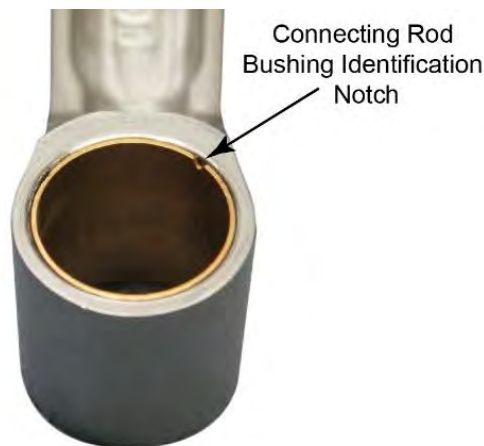

Figure 11
This Section contains required action to inspect connecting rod bushings and replace unacceptable connecting rod bushings. Acceptable connecting rod bushings, P/N 01K28983, installed or shipped as spares after September 9, 2021, can be identified by a single notch (Figure 11).
1. If the maintenance requires connecting rod removal and the connecting rod bushing does not have the identifying single notch (Figure 11), refer to the latest revision of Service Bulletin No. 240 for additional instructions.
4. Remove all connecting rod assemblies with a connecting rod bushing that does not have the identifying single notch (Figure 11) and all connecting rod bushings that do not have the identifying single notch (Figure 11) from your spares inventory.
- Spare Bushings that do not have the identifying single notch (Figure 11) should be considered unusable and discarded.
- Spare Connecting Rod Assemblies that do not have a bushing with the identifying single notch (Figure 11) should be considered unusable and discarded or have the bushing replaced with a notched bushing.
Inspect the connecting rod bushing for the identifying single notch (Figure 11).
- If the connecting rod bushing does not have the identifying single notch (Figure 11) complete the Connecting Rod Bushing Press-Out Verification Procedure in this Service Bulletin.
- If the connecting rod bushing has the identifying single notch (Figure 11) the bushing is acceptable and provided the bushing is not damaged and meets specifications in accordance with the latest revision of the *Service Table of Limits – SSP-1776*, replacement is not necessary.
Once all connecting rod assemblies in the engine have been verified to contain acceptable connecting rod bushings with the identifying single notch (Figure 11), the repetitive inspection procedure in Section 2 of this service bulletin is no longer necessary. Refer to the latest revision of Service Instruction No. 1575 for instruction to install connecting rod bushing P/N 01K28983.